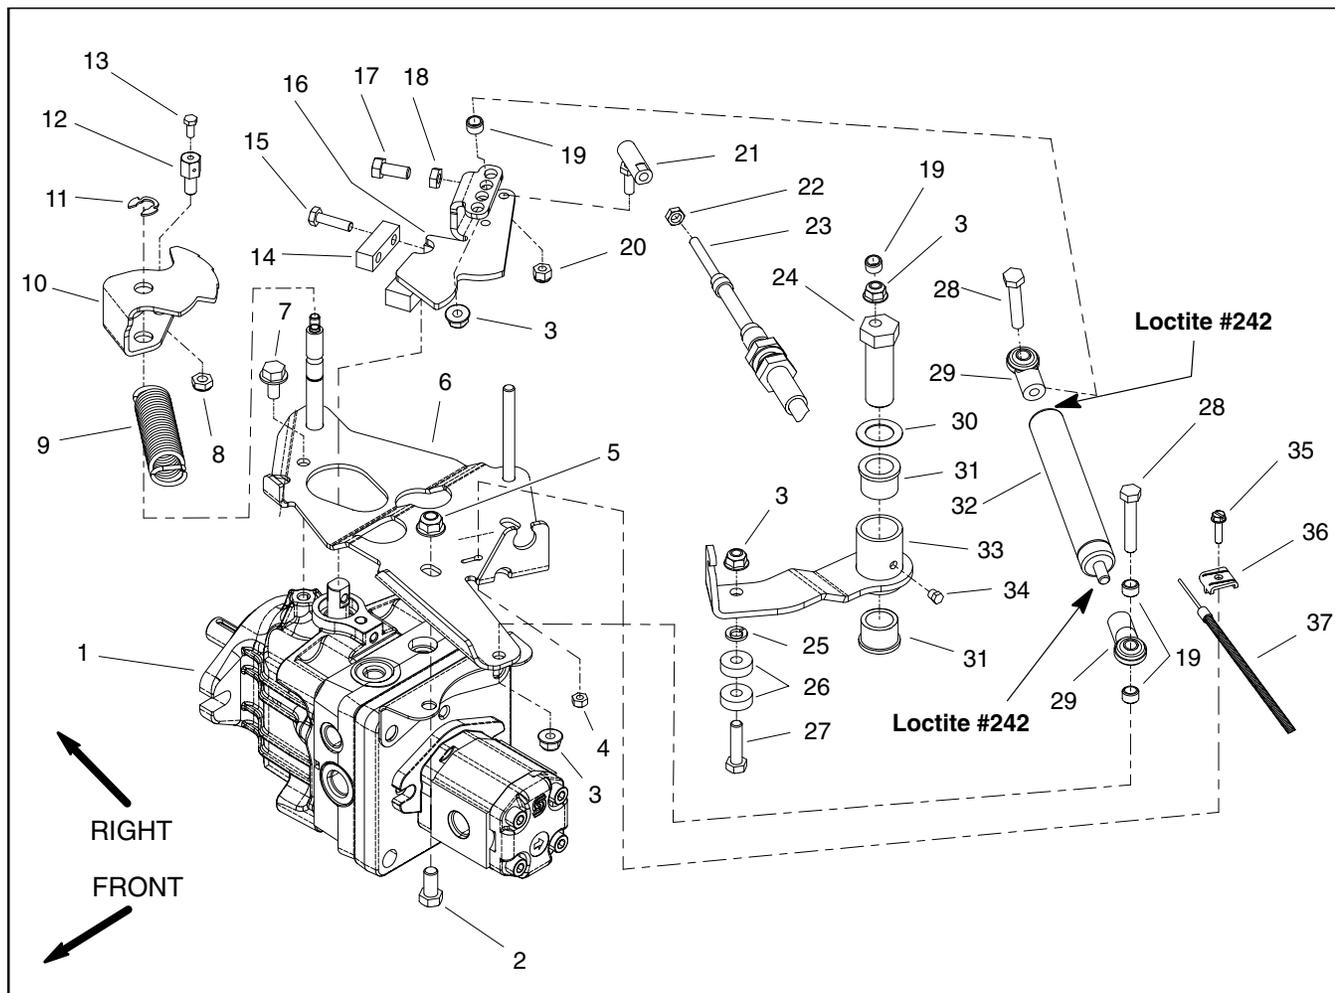

Figure 28
Disassembly (Fig. 28)
4. Remove components from pump control assembly as needed using Figures 28, 29 and 30 as guides.
Assembly (Fig. 28)
1. Install removed components to pump control assembly using Figures 28, 29 and 30 as guides.